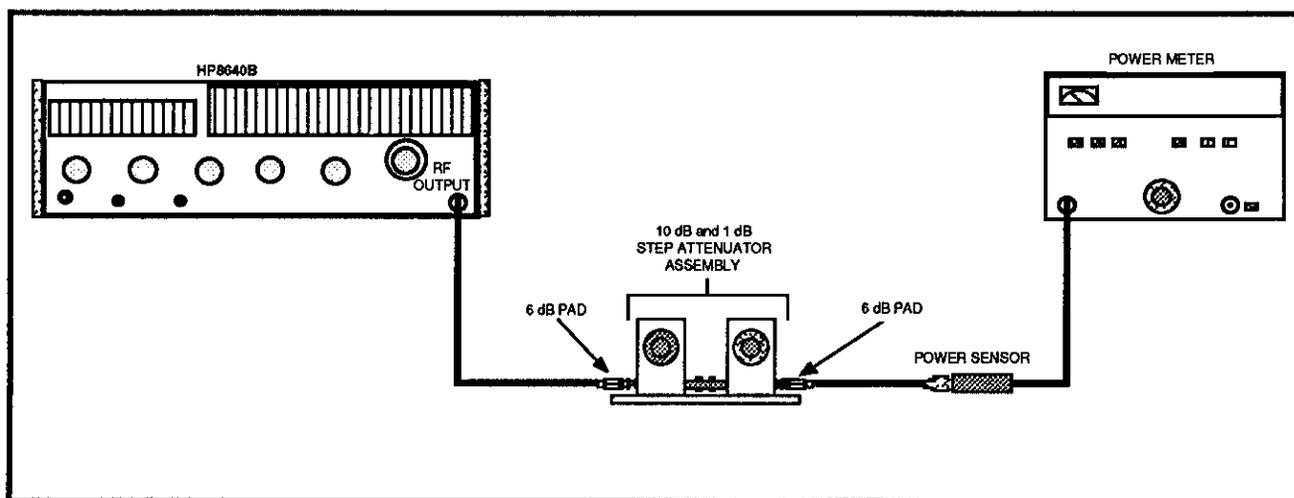

Figure 4-13. Gain Step Reference test setup.
- i. Connect the test equipment as shown in Figure 4-13.